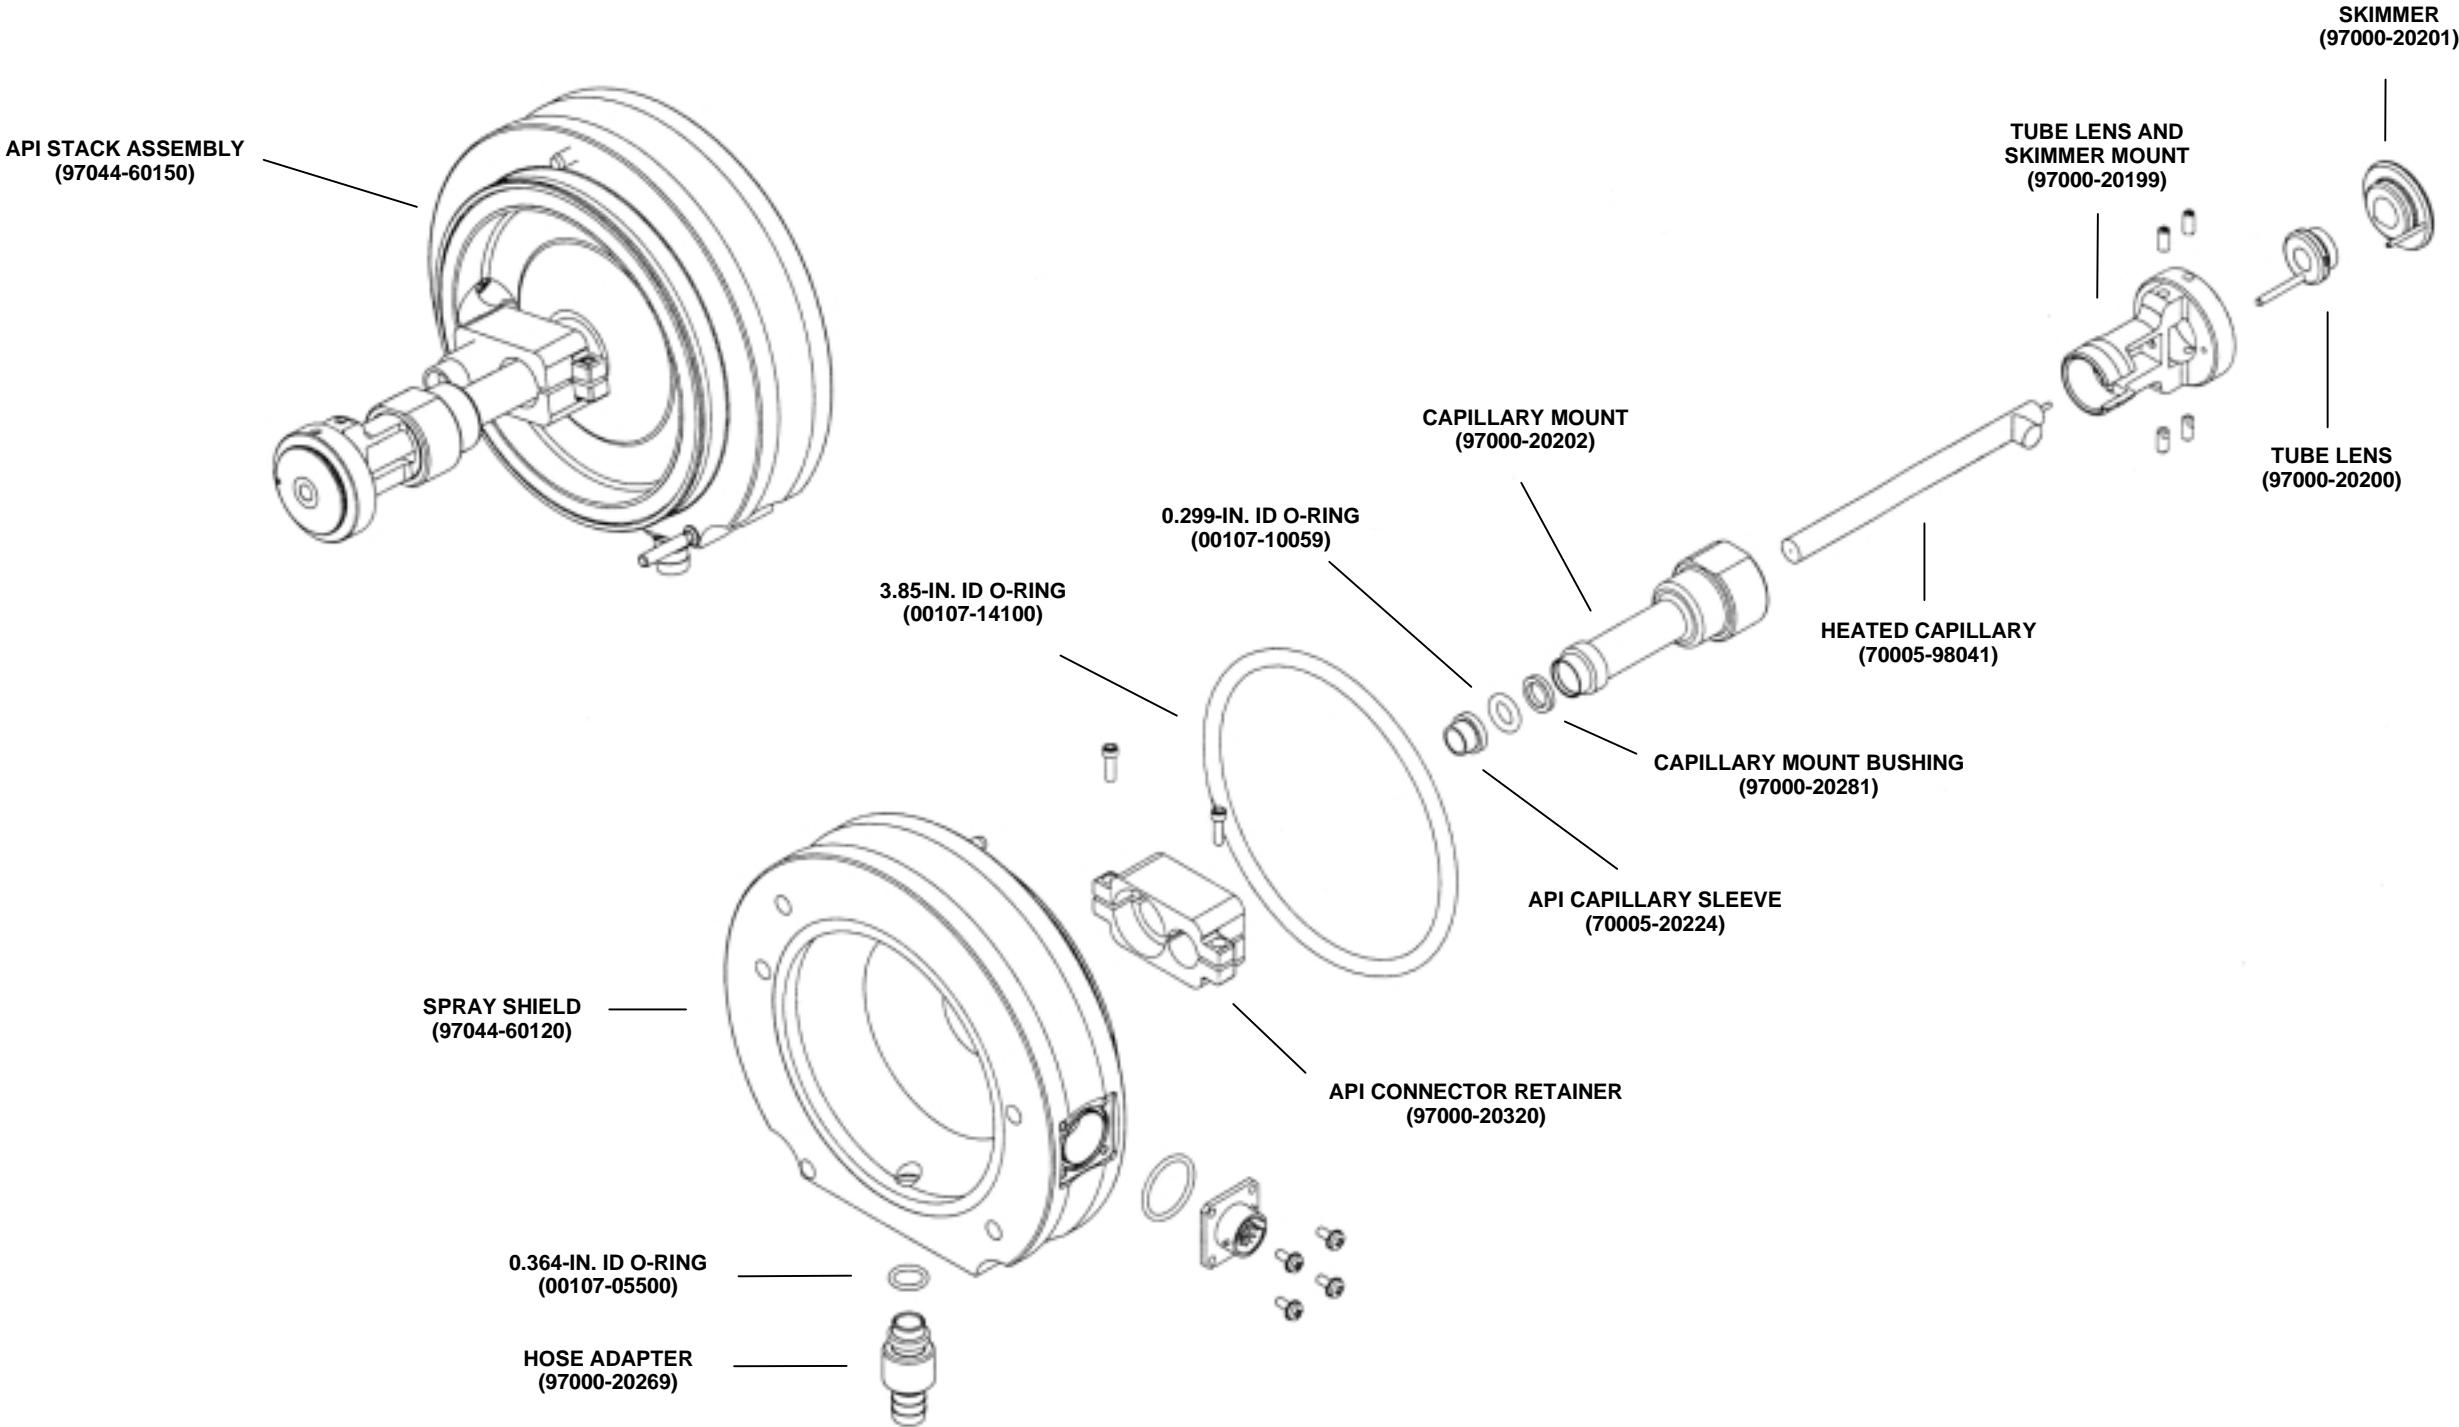

Figure 4-7. API stack exploded view
To remove the API stack, proceed as follows. See Figure 4-7.
Wait for the API stack to cool to ambient temperature before you disassemble it. See Figure 4-7 for the location of the various API stack components. To disassemble the API stack, proceed as follows:
To reassemble the API stack, proceed as follows. Figure 4-7 for the location of the API stack components.
14. Inspect the API stack. Ensure that the 3.85-in. ID O-ring (P/N 00107-14100) is in good condition and is properly seated on the spray shield. Ensure that all components fit together tightly. See Figure 4-7.